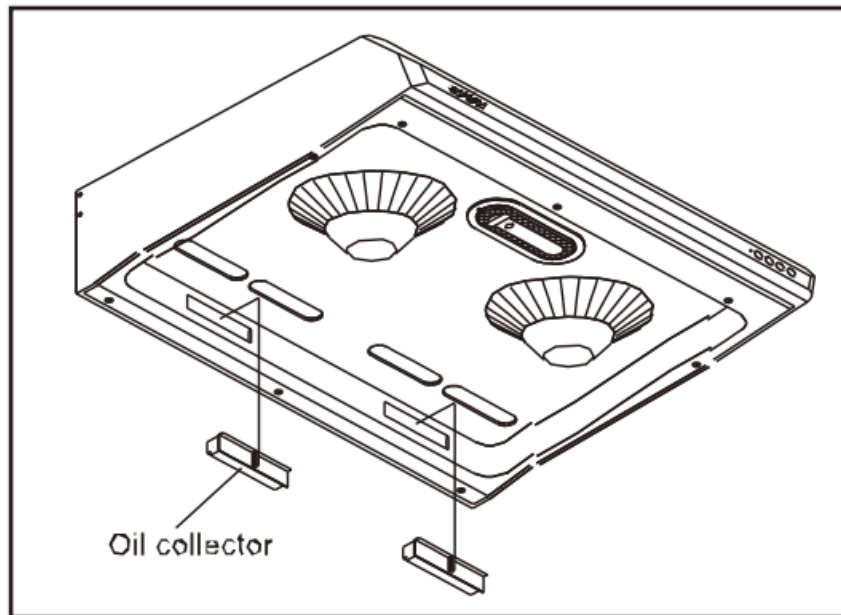

Fig. 16 Hang up the oil collectors
13. Place the two oil collectors as shown. (Fig. 16)